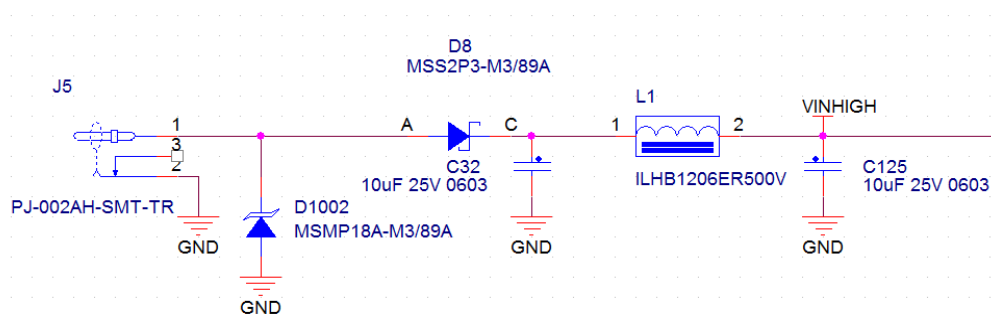

Figure 4 : Power input section
If you plan to power the NOVA**som** P board through the VINHIGH pin (pin 1 of both J9 and J13) consider the insertion of an appropriate choke for EMI filtering. Pay attention on VINHIGH polarity and limits, as the VINHIGH is after the inversion protection diode D8 on the NOVA**som** P board. A wrong VINHIGH connection will immediately destroy the NOVA**som** P board. In Figure 4 you can see the input power schematic part of the NOVA**som** P board.
- Pay attention on VINHIGH polarity and limits, as the VINHIGH is after the inversion protection diode D8 on the NOVA**som** P board. A wrong VINHIGH connection will immediately destroy the NOVA**som** P board. In Figure 4 you can see the input power schematic part of the NOVA**som** P board.